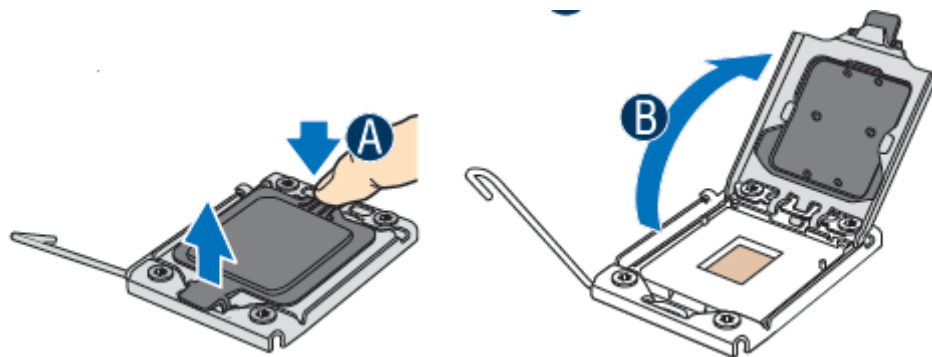

Figure 31. Installing Processor – Open the Load Plate
3. Open the load plate, see Figure 31.